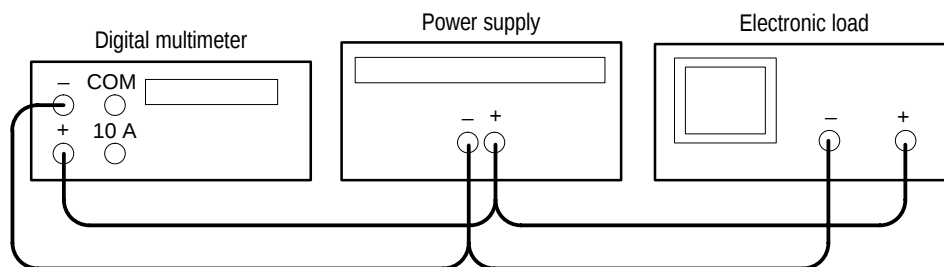

Figure 2: Constant Voltage Load Test Setup
2. Ensure that the power supply output is disabled. Connect the DMM and electronic load to the front panel OUTPUT 1 terminals. See Figure 2 for details.
6. Enable the electronic load. Adjust the load until the power supply CURRENT (A) readout indicates 1.500 A.
11. Ensure that the power supply output is disabled. Remove the leads from the front panel OUTPUT 1 terminals and connect them to the OUTPUT 1 terminals on the rear of the instrument. Maintain the equipment configuration and polarities shown in Figure 2.
15. Ensure that the power supply output is disabled. Connect the DMM and electronic load to the front panel OUTPUT 2 terminals. Maintain the equipment configuration and polarities shown in Figure 2.
17. Ensure that the power supply output is disabled. Remove the leads from the front panel OUTPUT 2 terminals and connect them to the OUTPUT 2 terminals on the rear of the instrument. Maintain the equipment configuration and polarities shown in Figure 2.
2. Ensure that the power supply output is disabled. Connect the DMM and electronic load to the front panel OUTPUT 2 (+) and OUTPUT 1 (–) terminals. Maintain the equipment configuration and polarities shown in Figure 2.
6. Ensure that the power supply output is disabled. Remove the leads from the front panel OUTPUT 2 and OUTPUT 1 terminals and connect them to the OUTPUT 2 (+) and OUTPUT 1 (–) terminals on the rear of the instrument. Maintain the equipment configuration and polarities shown in Figure 2.
2. Ensure that the power supply output is disabled. Connect the DMM and electronic load to the front panel OUTPUT 2 terminals. Maintain the equipment configuration and polarities shown in Figure 2.
6. Enable the electronic load. Adjust the load until the power supply CURRENT (A) readout indicates 3.000 A.
11. Ensure that the power supply output is disabled. Remove the leads from the front panel OUTPUT 2 terminals and connect them to the OUTPUT 2 terminals on the rear of the instrument. Maintain the equipment configuration and polarities shown in Figure 2.
2. Ensure that the power supply output is disabled. Connect the DMM and electronic load to the front panel OUTPUT 3 terminals. Maintain the equipment configuration and polarities shown in Figure 2.
11. Ensure that the power supply output is disabled. Remove the leads from the front panel OUTPUT 3 terminals and connect them to OUTPUT 3 on the rear of the instrument. Maintain the equipment configuration and polarities shown in Figure 2.